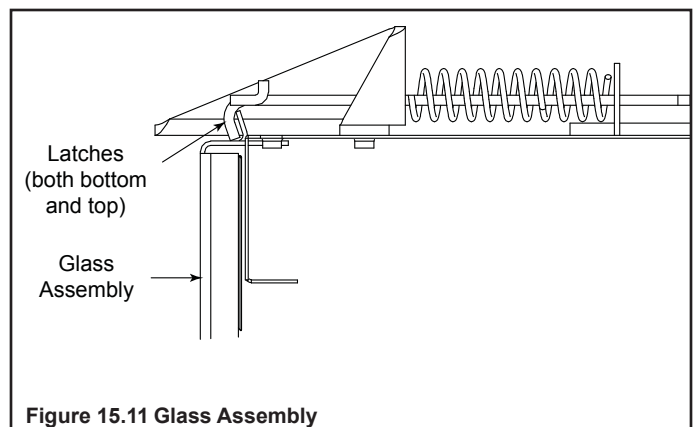

Figure 15.11 Glass Assembly
- Pull the four glass assembly latches out of the groove on the glass frame. Refer to Figure 15.11.